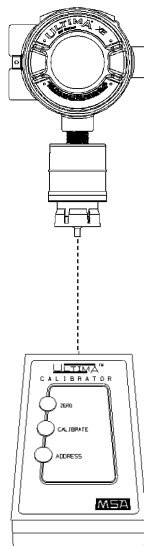

Figure 1-2.
- All ULTIMA Calibrator operations are performed by simply pointing the Calibrator at the ULTIMA/ULTIMA X Series Gas Monitor display from a distance of no greater than six inches (FIGURE 1-2).
2. To change any function on the ULTIMA/ULTIMA X Series Gas Monitor, point the top of the Controller directly at the clear face of the sensor (FIGURE 1-2) and press the desired sequence of Controller buttons. (Controller must be pointed at sensor when final button of sequence is pressed.)